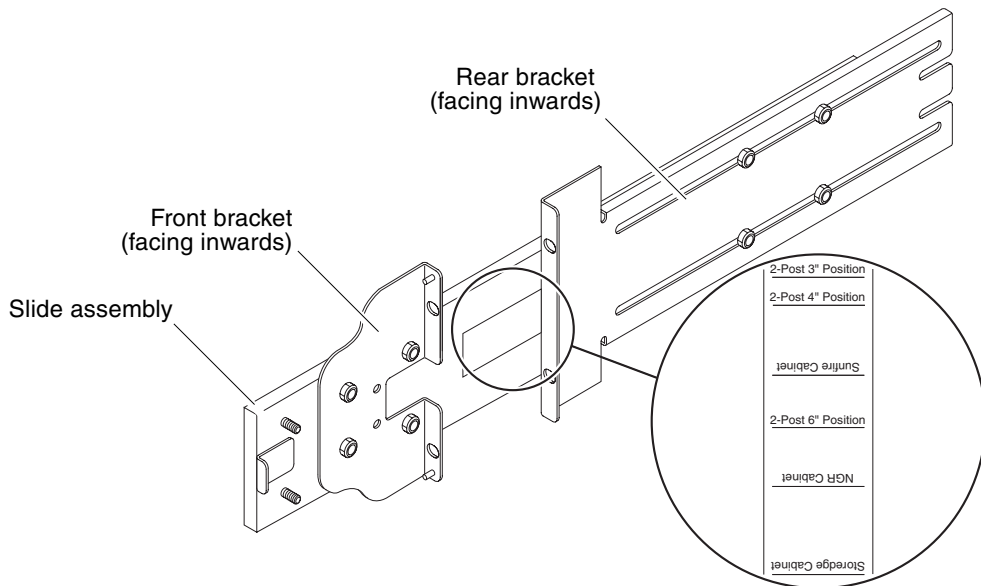

FIGURE 1-3 Rail Assembly (Modified for Two-Post Installation)
For two-post installations, you can dismantle and reassemble the rail assemblies (FIGURE 1-3). The rail assemblies can be adjusted to suit a 19-inch two-post rack that has a post depth in the range of 3 to 6 inches (7.5 to 15.0 cm).
3. Rotate the front bracket 180 degrees and resecure it facing inward (FIGURE 1-3).
5. Rotate the rear bracket 180 degrees so that it faces inward (FIGURE 1-3).